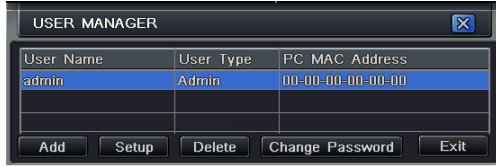

Fig 4-34 User Management Configuration
Step 1: Enter into Menu→Setup→User management configuration. Refer to Fig 4-34: